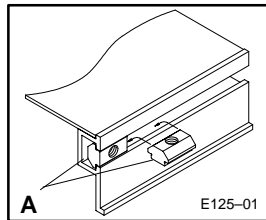

Figure 17: Drop-in T-bar Installation Detail
1. Refer to drawing and install the (2 each) drop-in T-bars (A of Figures 17 & 19) into both the upper and lower conveyor T-slots, on both sides of the conveyor. Insert each T-bar by rolling it into position (A of Figure 17).
3. Properly position and install the cleat cover guide (F of Figures 17 & 18) and chute back guide (G) assembly into the aligning slots of both chute side.